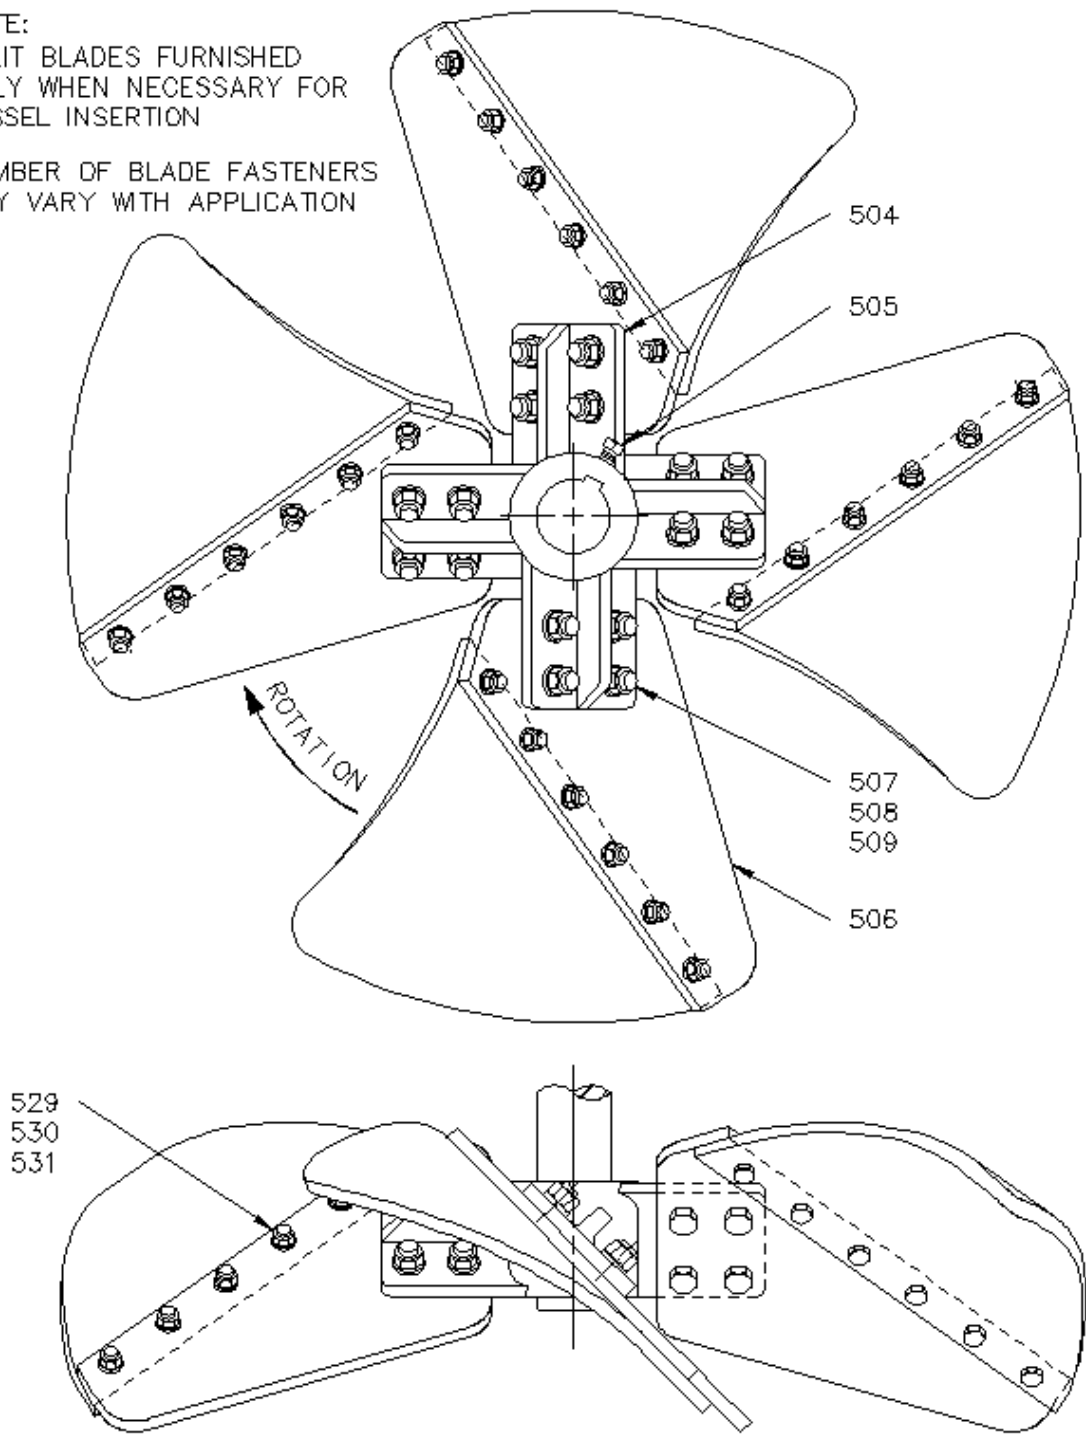

Figure 16. Style Maxflo W Impeller
4. Bolt extension blades [506] to the hub [504] with bolts, nuts and lockwashers [507, 509, 508]. Refer to Figure 11 to Figure 16, page 30 to 36. Bolt split blades, if furnished, to extension blades with bolts, nuts and lockwashers [529, 531, 530]. Bolt stabilizer fins [510], if furnished, to extension blades with bolts, nuts, and lockwashers [511, 513, 512]. Torque bolts to the value shown in APPENDIX, Page 96.